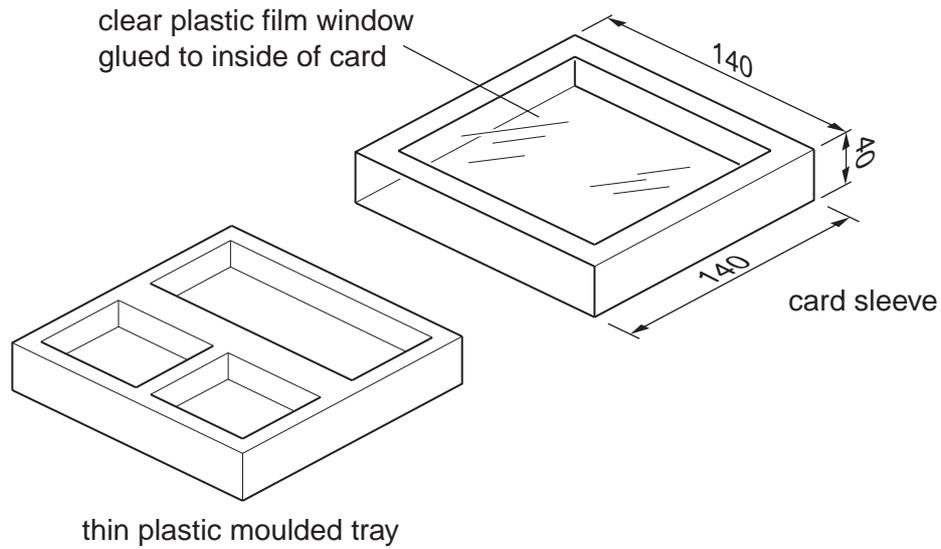

Fig. 3
- 3 Fig. 3 shows the packaging for a mobile phone.